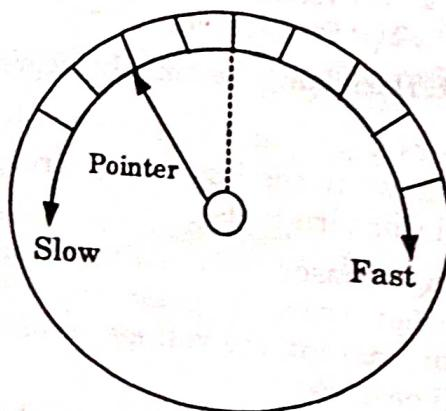

**Fig. 1.23.2. One dark, two equally bright lamp method of synchronizing.**
1. In this method, the lamp connections are made as shown in Fig. 1.23.2. One lamp is directly connected across  $R - R'$  and the other two are cross-connected.